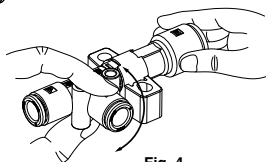

Fig. 4
- 2) Adjust the adapter to rotate the vacuum (V) port (Fig. 4).